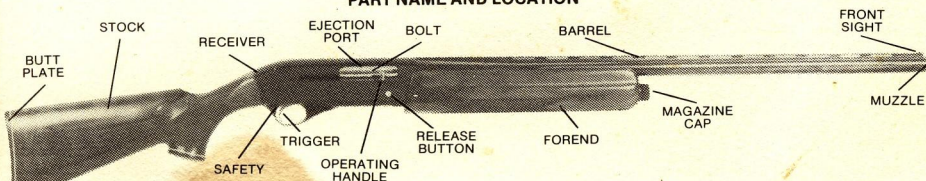

FIGURE 1
Prior to using live ammunition, familiarize yourself thoroughly with these operating instructions, referring to **FIGURE 1**. Get accustomed to the feel of your new shotgun — know the forces required to operate the action, to pull the trigger and above all, **KNOW THE LOCATION OF THE SAFETY** which, on this firearm, is located at the rear of the trigger guard. The safety is “**ON SAFE**” when pushed from left to right covering the red band. When the safety is “**OFF SAFE**,” the red band will be visible on left side and trigger can be pulled.
**BARREL CLEANING** (Fig. 1) — Push safety "ON SAFE." Close action. Unscrew magazine cap and remove forward. Remove barrel. Replace magazine cap to magazine tube. Clean barrel with cleaning rod and lightly oiled soft cloth. Scrub bore with powder solvent, if necessary, and wipe clean. Re-oil very lightly.